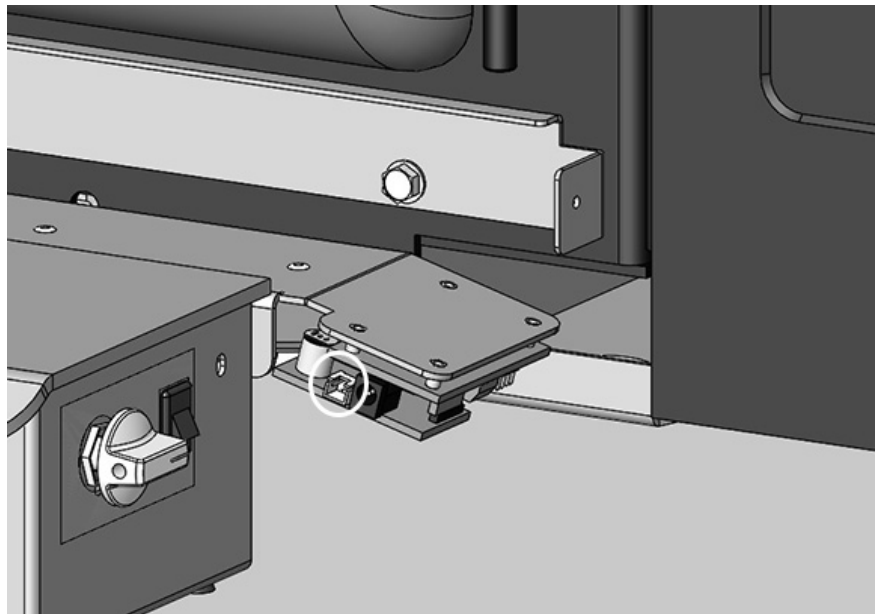

Figure 27: Plug in battery box.
3. Connect the battery box to the plug on the control board. Figure 27